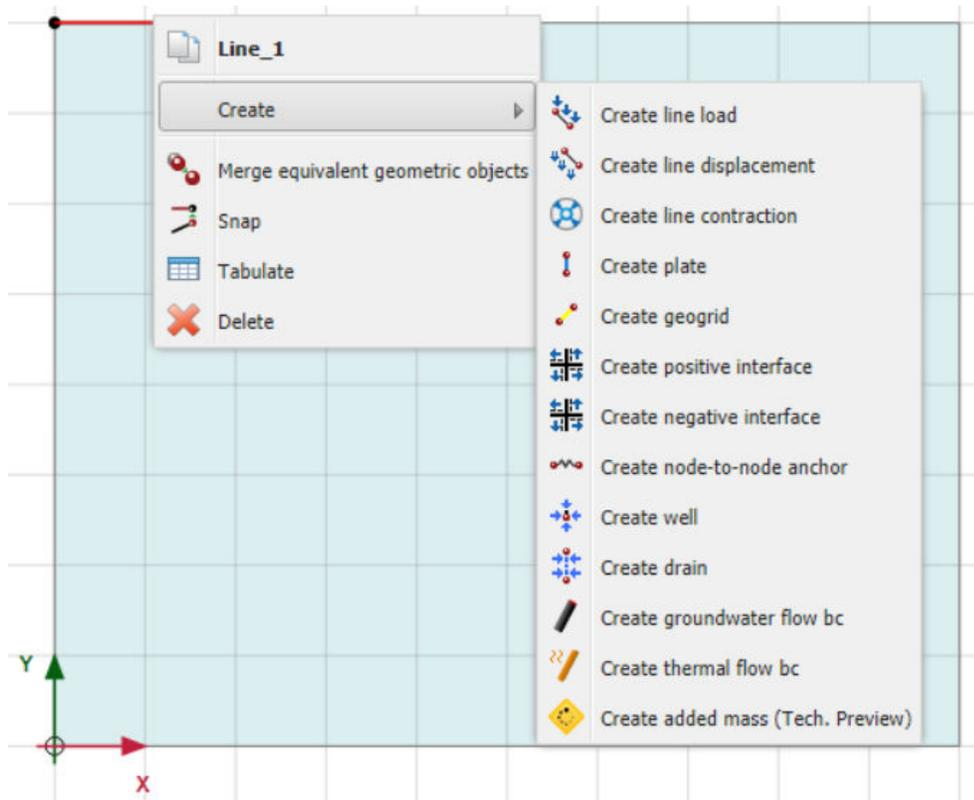

Figure 22: Create Plate option
4. In the model right-click the line at the location of the footing. Select **Create > Create Plate** as shown in Figure 22 (on page 32).